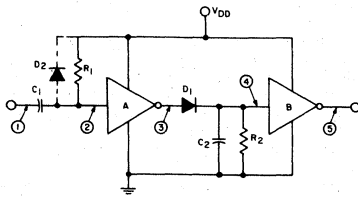
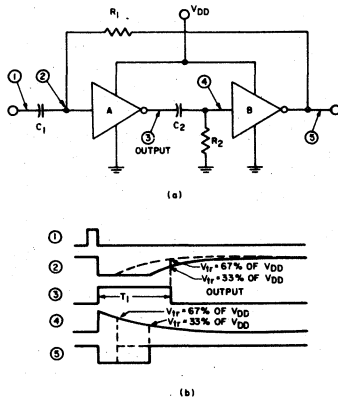
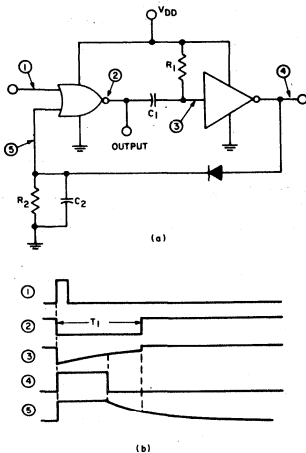
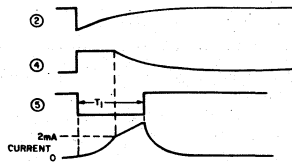

Fig. 9 - Compensated monostable multivibrator circuit.
Fig. 12 - Monostable multivibrator that is triggered by a negative-going input pulse: (a) circuit diagram; (b) waveforms.
Fig. 13 - Monostable multivibrator that is triggered by a positive-going input pulse: (a) circuit diagram; (b) waveforms.
Fig. 14 - Current waveforms for the diode-compensated multivibrator shown in Fig. 9.
**Compensated Monostable Circuit.** Fig. 9 shows a compensated monostable multivibrator type of circuit that can be triggered with a negative-going pulse ( $V_{DD}$  to ground). In the quiescent state, the input to inverter A is high and the output low; therefore, the output of inverter B is high. When a negative-going pulse or spike is introduced into the circuit, as
Diode  $D_2$  in Fig. 9 is internal to the COS/MOS circuit. As discussed for the astable oscillator, it is part of the input protection circuit shown in Fig. 2, and serves to clamp the input at  $V_{DD}$ .
Figs. 12 and 13 show two variations of the monostable circuit, together with their associated waveforms. The circuit of Fig. 12 triggers on the negative-going excursions of the input pulse, in the same manner as the circuit of Fig. 9. The output pulse is positive-going and is taken from the first inverter. This circuit does not need an external diode. The circuit of Fig. 13 triggers on the positive-going excursion of the input pulse, and then locks back on itself until the RC time constants complete their discharge. The circuits of Figs. 12 and 13 cannot be retrigged until they return to their quiescent states.
**Low-Power Monostable Circuit.** The monostable circuits discussed thus far dissipate some power because one or both of the inverters are on during the charging or discharging of the RC time constants. This power dissipation will be extremely low provided the "one-shot" pulse width is short compared to the over-all cycle time. Fig. 14 shows the current waveform associated with the circuit of Fig. 9. This